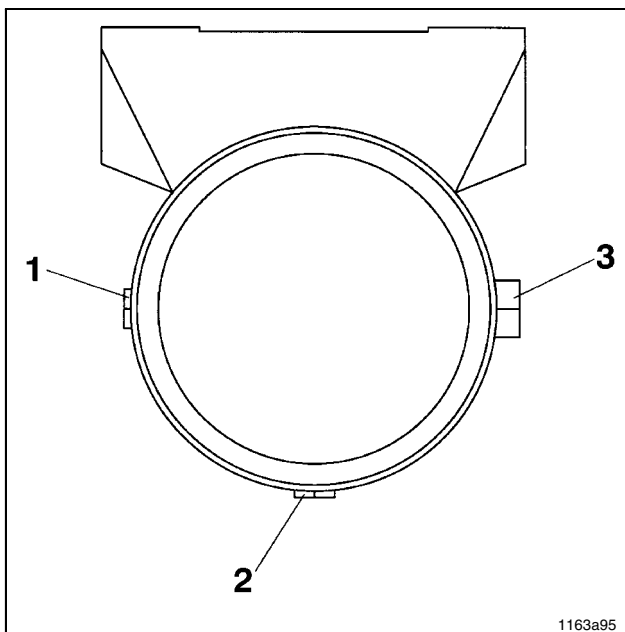

Fig. 10 Arrangement of the pump elements
- Loosen counter nut (2, Fig. 10) while holding in position pump element body (3) by means of a second wrench.
- Change the position of the adjusting spindle (1) by means of a wrench.
- The dimension "S" (see Fig. 10) for the desired lubricant output can be ascertained by using the delivery diagram shown in Fig. 11.
- Unscrew the adjusting spindle (1, Fig 10) from the pump element body (3) until "S" is approx. 30 mm.
- Screw counter nut (2) onto stop collar of the adjusting spindle (1)
- Screw adjusting spindle (1) with counter nut (2) into pump element body (3) until stop.
1) All indications of positions refer to Fig. 10.